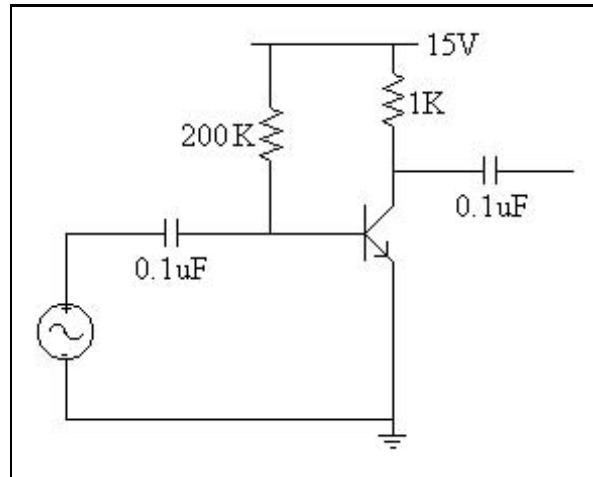

Figure 2.8: CE Amp with $R_E = 0$
2. Build the circuit in Fig. 2.8.